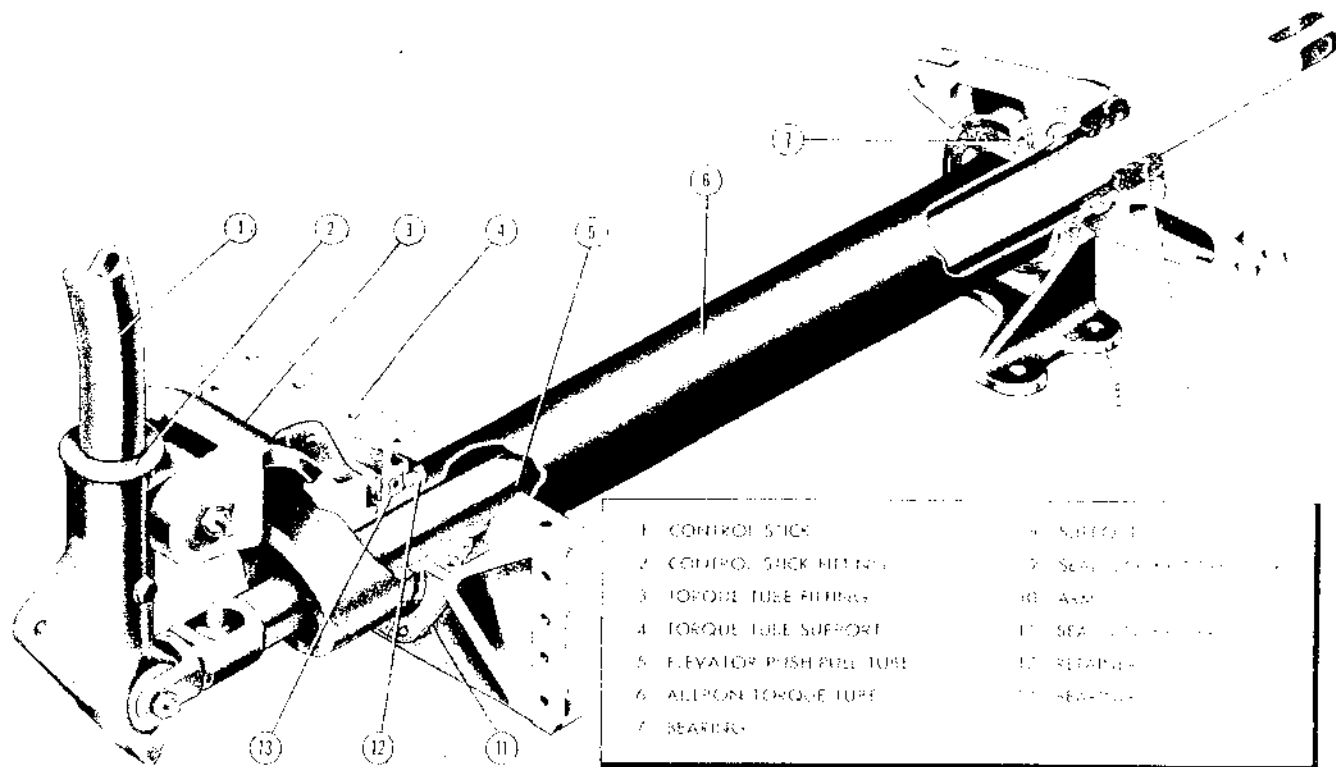

Figure 131 — Aileron-elevator Control Assembly
(4) ADJUSTMENT.
(a) NEUTRAL POSITION.—There is no provision for lateral adjustment. Fore-and-aft adjustment is as follows: Set elevator push-pull system in neutral as described in paragraph *d*(6) following. Adjust terminals of push-pull rod (5, figure 131) until control stick is 5 degrees 40 minutes forward of vertical.
(d) DISASSEMBLY, AILERON-ELEVATOR CONTROL. (See figure 131.)